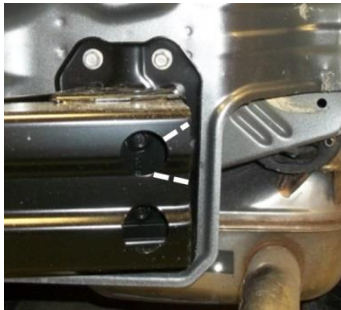

Figure 2
5. **Bumper removal:** Remove the (8) bolts holding the bumper in place and return the fasteners to the owner.
6. **Bumper trimming:** using a die grinder remove the material shown in Figure 2. Both sides as needed.